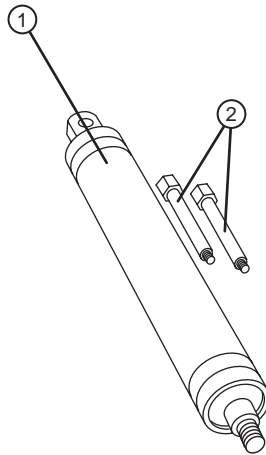
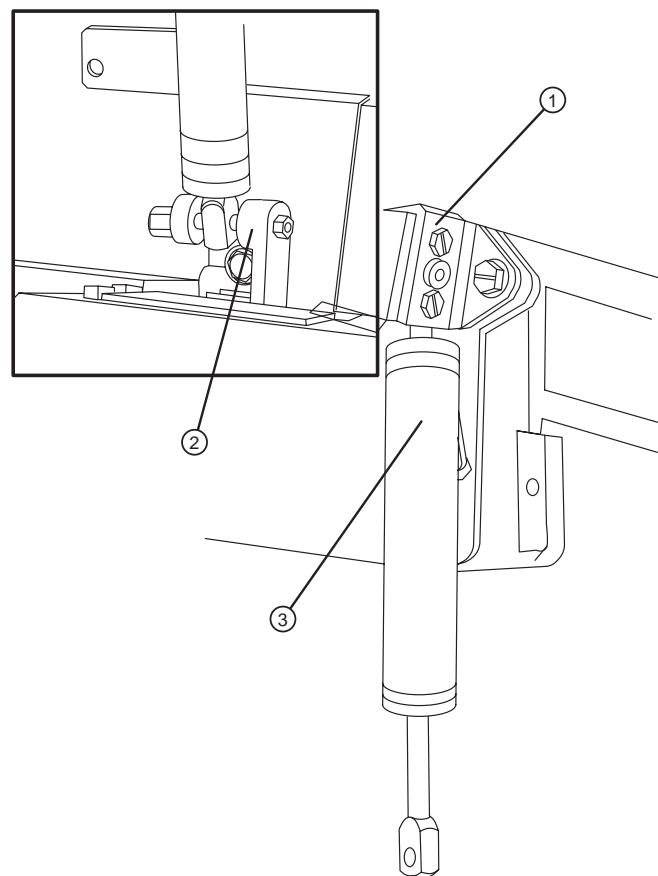

Figure 1-12 Gas shock and bolts.
Figure 1-13 Attaching the gas shock.
①—Gas shock (one of two). ②—Spring bolts (two of four)
1. Screw the threaded end of the gas shock into the bridge mount casting at the top rear of the bridge. Refer to Figure 1-13.
2. Using the spring bolt (see Figure 1-12) and nut provided, attach the ear to the lower mount casting. Refer to Figure 1-13.